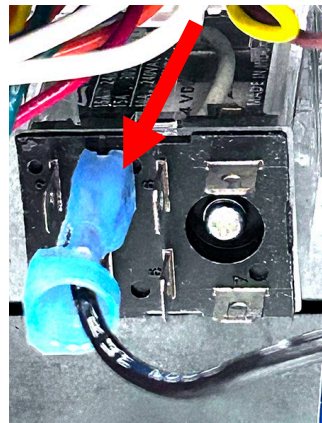

Figure 47
- 50. Locate the large **BLACK** wire from the OIB sensor with the **TERMINATED** end. Attach it to the clear OIB relay connector shown, in the control box (see Figure 47).